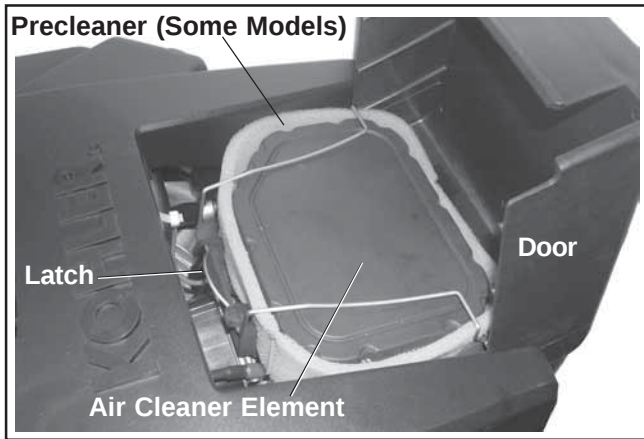

Figure 11. Air Cleaner System.
These engines are equipped with a replaceable, high density paper air cleaner element. Some engines are also equipped with an oiled, foam precleaner which surrounds the paper element. See Figure 11. Two different capacity air cleaner systems are available.
1. Open the door on the blower housing to access the air cleaner element and precleaner. See Figure 11.
1. Open the door on the blower housing to access the air cleaner element. See Figure 11.